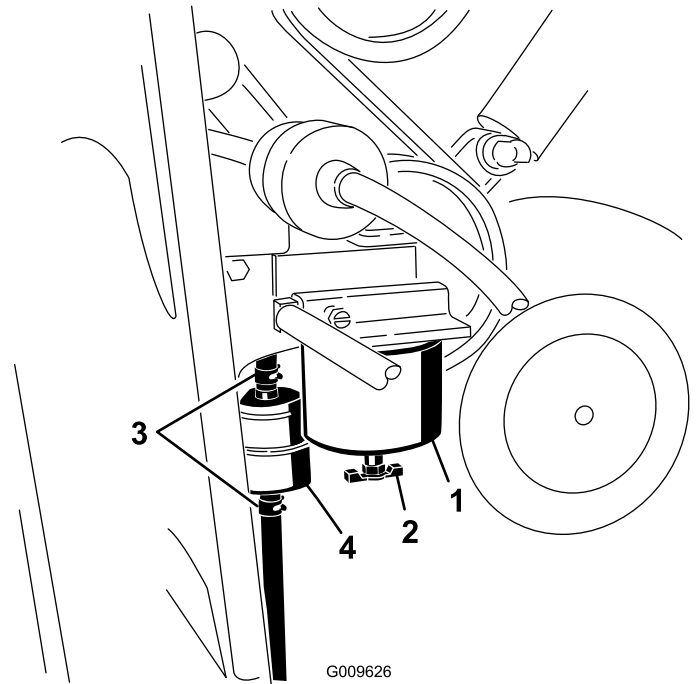

Figure 40
1. Locate the fuel filter on the right side of the engine (Figure 40) and place a clean container under it.
1. Locate the fuel filters on the right side of the engine (Figure 40) and place a clean container under it.
2. Clean the area where the filter canister mounts (Figure 40).
3. Remove the filter canister and clean the mounting surface (Figure 40).
5. Install the filter canister by hand until the gasket contacts the mounting surface, then rotate it an additional 1/2 turn (Figure 40).
6. Locate the in-line filter behind the fuel filter canister (Figure 40) and note the direction of flow arrow on the side of the in-line filter.
7. Open the clamps on each end of the in-line filter and slide the hoses off it (Figure 40). Discard the filter.
8. Slide the hoses over the end of a new filter (Figure 40), ensuring that the arrow on the filter is pointing in the same direction as the arrow on the old filter.